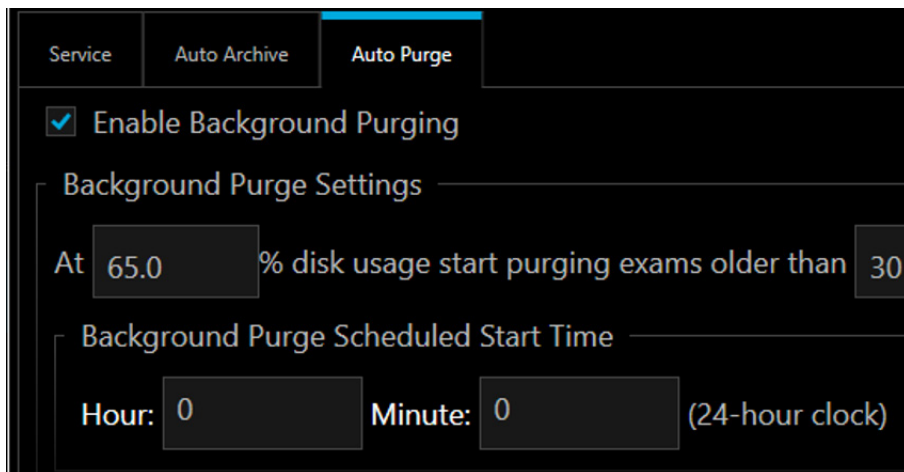

Figure 38 – Auto Purge Settings
- ① From home screen, select <Configure> button and then select <Archive/DICOM> tab.
- ② Select <Configure Service> button and then select <Auto Purge> tab , *Figure 38*.
- ③ Ensure “Enable Background Purging”, *Figure 38*, option is selected. Denote at what percentage of disk usage purging should start and for which exams are to be purged based on the number of days since exam was performed. Make changes, if required, and select <OK> (or <Cancel> if no changes are required)